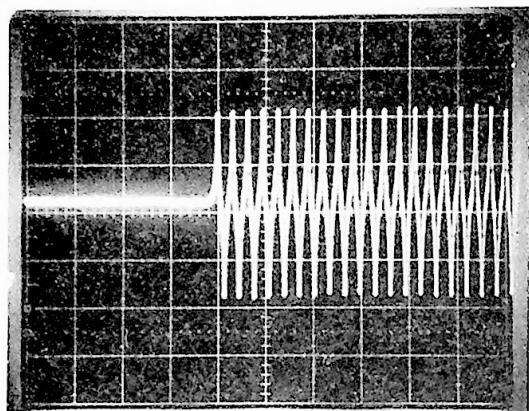

FIGURE 36. INDEX TIMING
- g. Observe the timing between the start of the sweep and the first data pulse. This should be $200 \pm 100\mu\text{sec}$. If the timing is not within tolerance, continue on with the adjustment. Reference Figure 36.